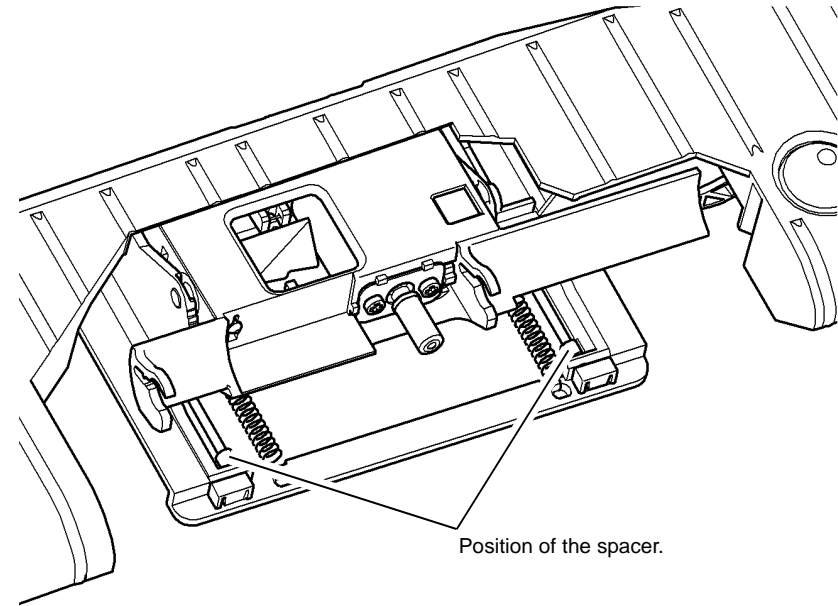

Figure 2 Location of the spacer
2. Slide the spacer to the end of the shaft, Figure 2.